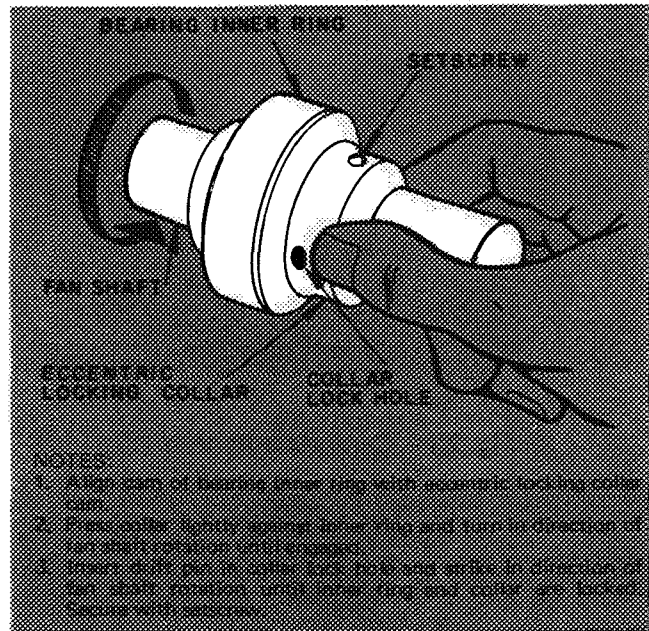

Fig. 26 – Securing the Bearing Eccentric Locking Collar
3. Check secureness of bearing locking collars per Table 4. Refer to Fig. 26 for eccentric type.
5. Install new bearing and tighten bearing locking collar setscrews per Table 1 and Fig. 26.